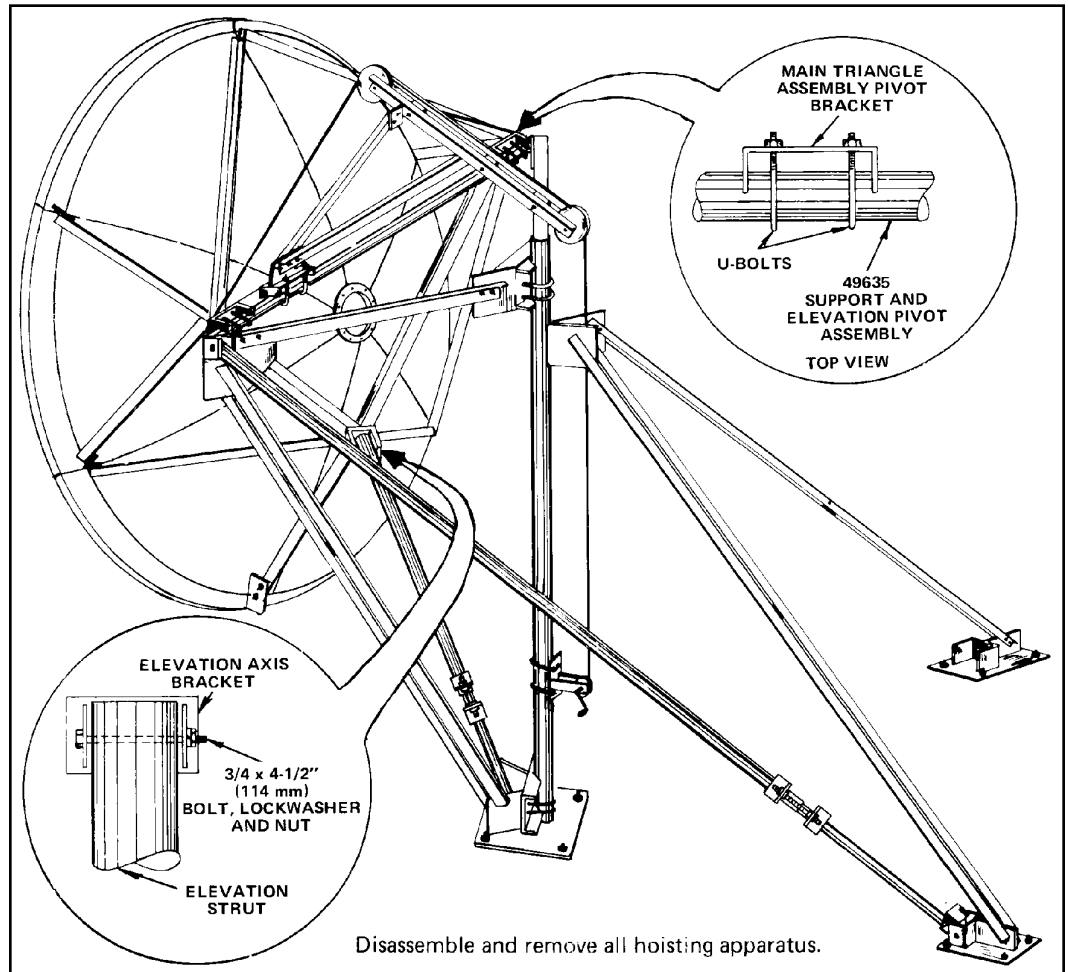

Figure 49
Step 12 Hoist reflector/backstructure assembly to vertical position until upper joints of main triangle assembly contact pipe and straddle two locator bars on support and elevation assembly (P/N 49635) as shown in Figure 49.